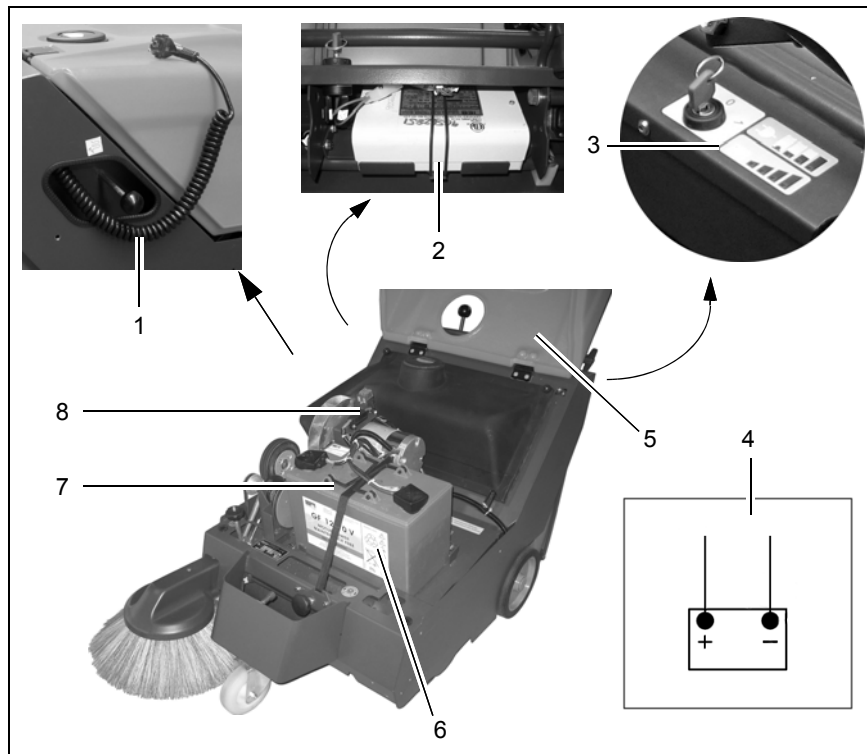

Fig. 15
During operation, the battery discharge indicator in the operating panel (Fig. 15/3) indicates the discharge status of the battery, refer to Section 3.2.2, Section "Battery discharge status (Fig. 10/3)". The battery must be charged immediately the red LED lights up. The battery (Fig. 15/6) is recharged using the integrated on-board charger (Fig. 15/2):
2. Remove the charger cable (Fig. 15/1) from the recess on the right-hand side of the machine.
3. Plug the charger cable (Fig. 15/1) in a 230 V power outlet.
While the battery is charging, the charge control indicator lights up in the operating panel (Fig. 15/3), refer to Section 3.2.2, Section "Charge control indicator (Fig. 10/2)".
1. Unlock the hood (Fig. 15/5) using a square wrench and open the hood (Fig. 15/5).
2. Disconnect the negative cable from the battery (Fig. 15/6).
3. Disconnect the positive cable from the battery (Fig. 15/6).
5. Take hold of the battery (Fig. 15/6) by their handles (Fig. 15/7) and lift them out.
2. Take hold of the battery (Fig. 15/6) by their handles (Fig. 15/7) and install them at their prescribed positions in the machine, refer to Figure 15.
4. Connect the battery (Fig. 15/6) in accordance with the connection diagram (Fig. 15/4).
5. Connect the positive cable of the machine to the battery (Fig. 15/6) installed in the machine.
6. Connect the negative cable of the machine to the battery (Fig. 15/6) installed in the machine, refer to Section 2.1.4.
7. Close the hood (Fig. 15/5) so that it audibly locks.